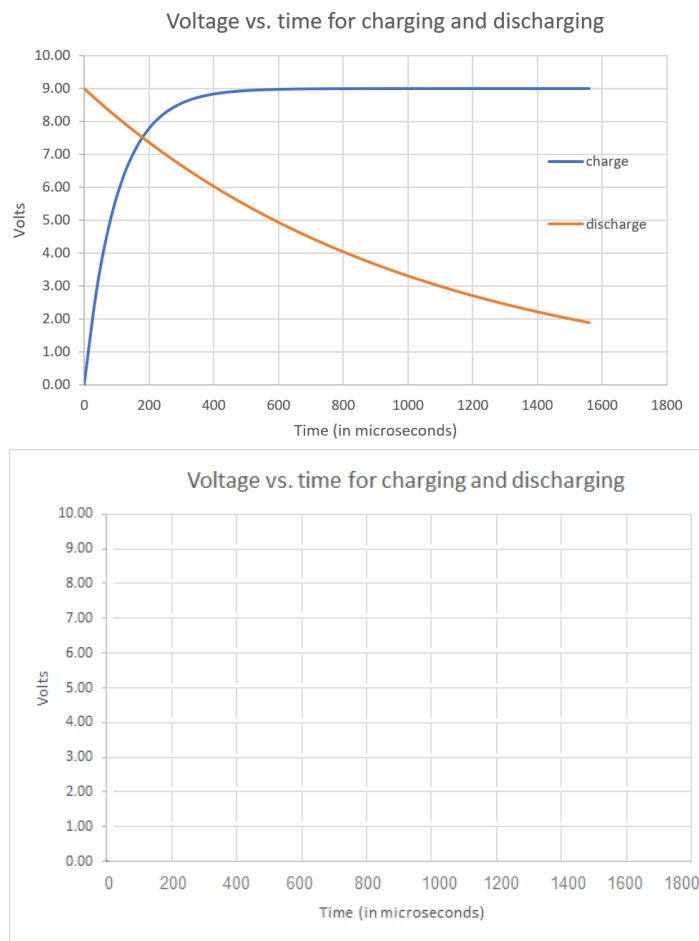

Figure 6: Voltage vs. time for V_t in both the charging and discharging configurations.
9. Plot V_t vs. *time*. To help you, I have plotted voltage vs. time for V_t for the charging and discharging states. You can cut-and-paste the relevant pieces of the curves from Figure 6 to form your answer. Draw as many charge/discharge cycles as will fit.